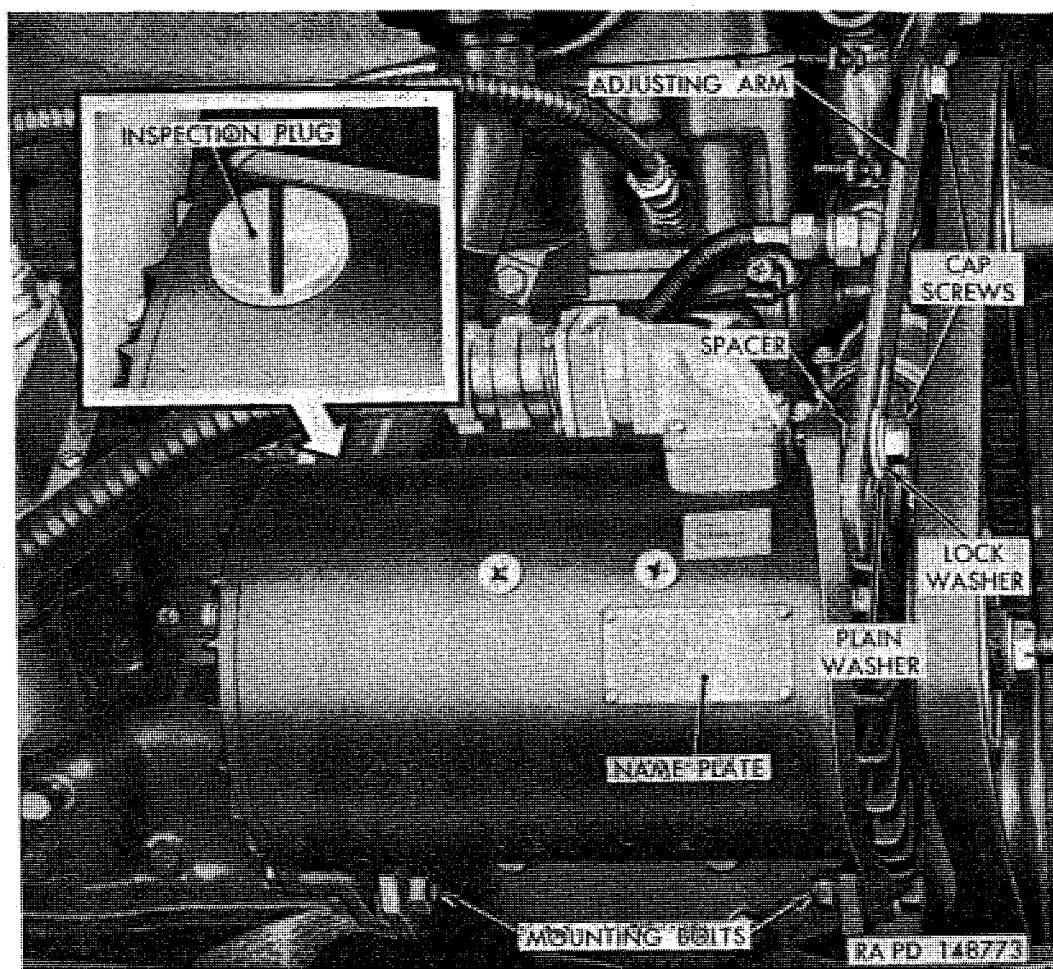

Figure 152. Generator installed.
b. *Generator* (fig. 152). Generator used on early M135 trucks is a four-brush, four-pole, shunt-type unit. Generator used on late M135 trucks and all other models is a two-brush, four-pole shunt-type unit. The two-brush-type is used for service replacement on all models. Generator is mounted on right front side of engine and is driven by a belt, in conjunction with the engine water pump and fan, from the engine crankshaft pulley. Inspection plug in generator field coil frame provides a means of inspecting commutator. Generator mounting permits positioning generator to provide proper drive belt tension. All external wiring connections are made through a three-prong plug and receptacle-type connector.
- (1) Improper voltage regulator setting.
- (2) Defective voltage regulator.
- (3) Short circuit between charging circuit and field circuit, in either the generator, generator-regulator, or wiring.
- (4) Poor ground connection at regulator.
- (5) High battery temperature which reduces the resistance of the batteries to charge so that they will accept a high charging rate even though the voltage regulator setting is normal. If trouble is not due to high battery temperature, determine the cause of trouble as in (a) through (d) below.
- (a) Loosen nut on wiring harness connector at generator (fig. 152). Unscrew nut from receptacle; then pull harness plug out of receptacle.
(fig. 152)